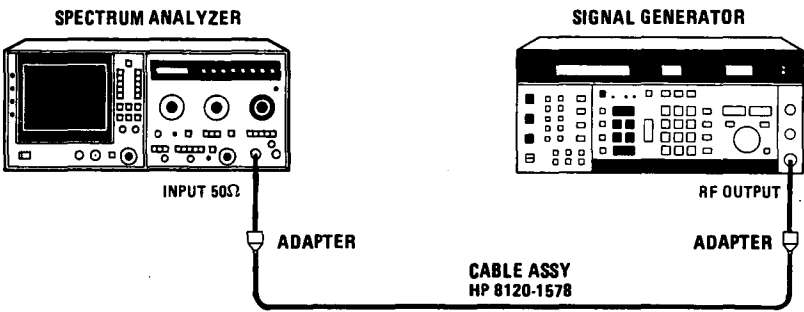

Figure 4-24. Comb Generator Frequency Accuracy Test Setup
- 2. Connect equipment as shown in Figure 4-24. Set signal generator output FREQUENCY to 100.000000 MHz and AMPLITUDE to –20 dBm.